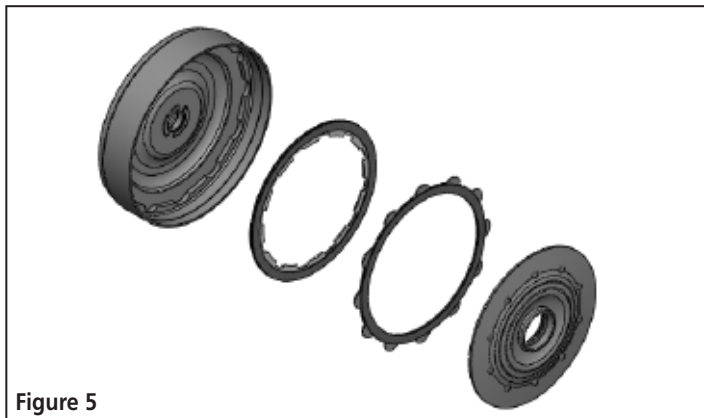

Figure 5
21. Start by dropping the internally splined (dual friction) clutch plate into the front cover (Figure 5).
22. With the steel side towards the cover and the friction side towards the piston, install the externally splined (single friction) clutch plate into the front cover, rotating to engage the splines (Figure 5).